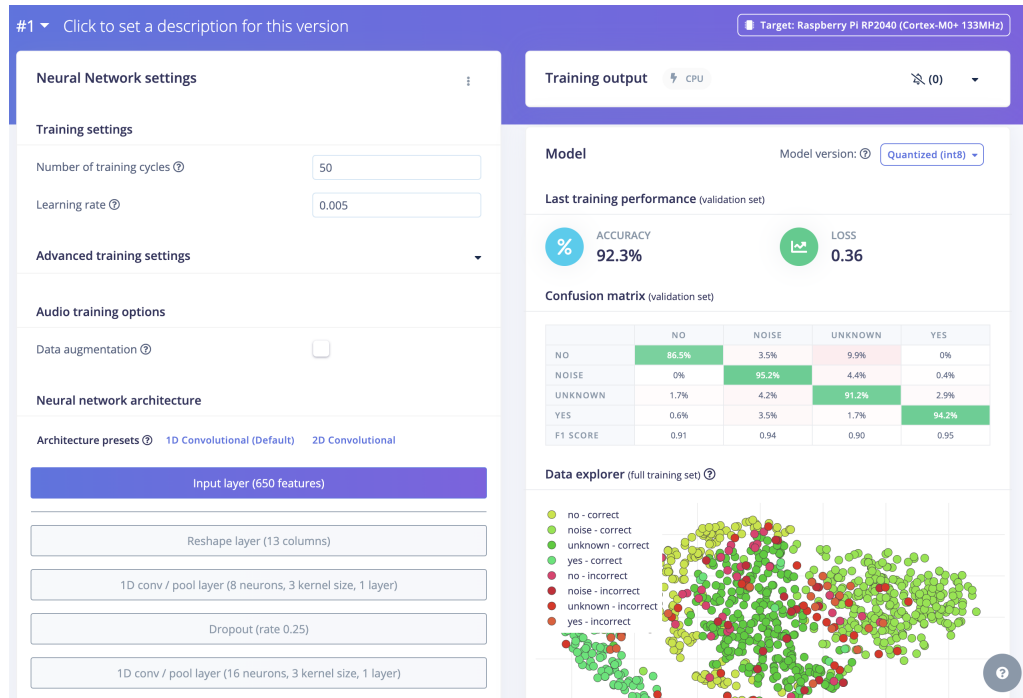

Figure 9.4: The fully trained model should result in something like this. Note the Target.
26. After training, the page should look like Figure 9.4